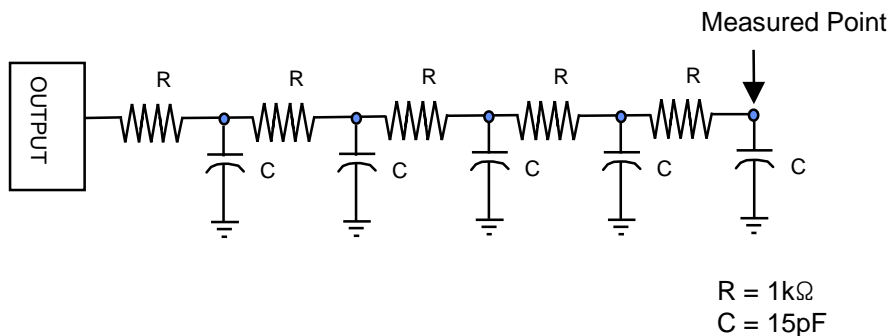

Fig 2. Load conditions of analog output pin.
- 9. The load of the analog output terminal is the value shown in Fig 2.